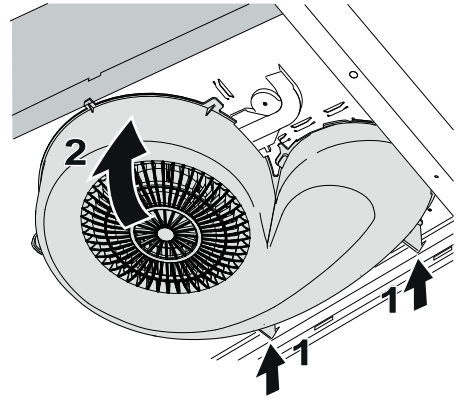

Fig. 7
Refit the fan housing by inserting the supports in the rear of the fan (1). Bend up the fan housing (2), Fig. 7